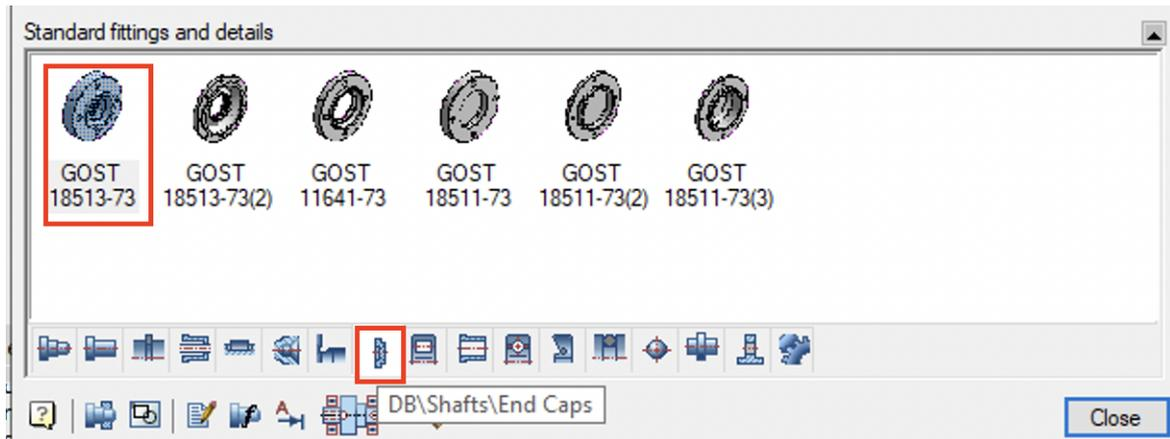

Fig. 24. End cap selection
3.2. In the **DB/Shafts/End Caps** section of the **Edit shaft** dialog box, select the cover of GOST 18513-73 (Fig. 24).